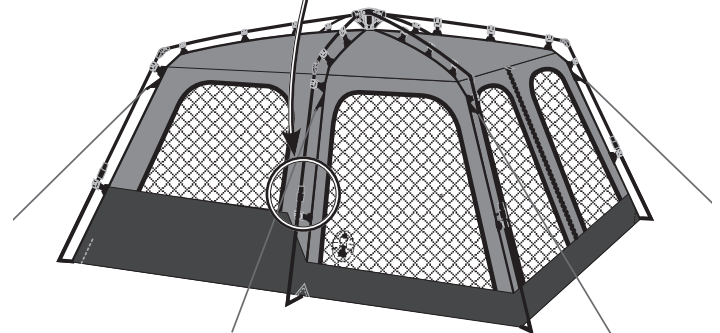

Fig. 5
- Extend each of the telescoping leg poles until they snap into place. (Fig. 5 and 6)